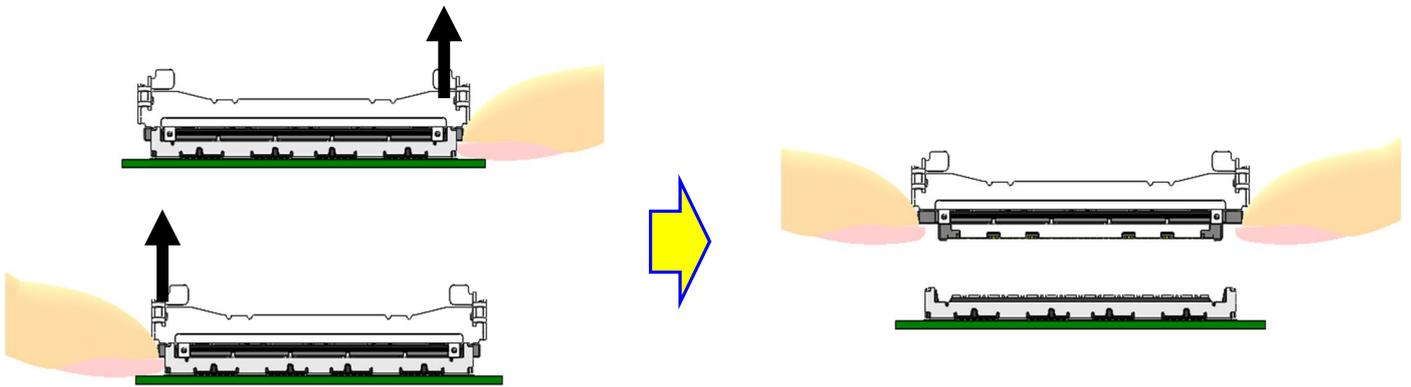

Fig.13
- ② Jump up both ends of the plug one by one and withdraw the connector. (see Fig.13)